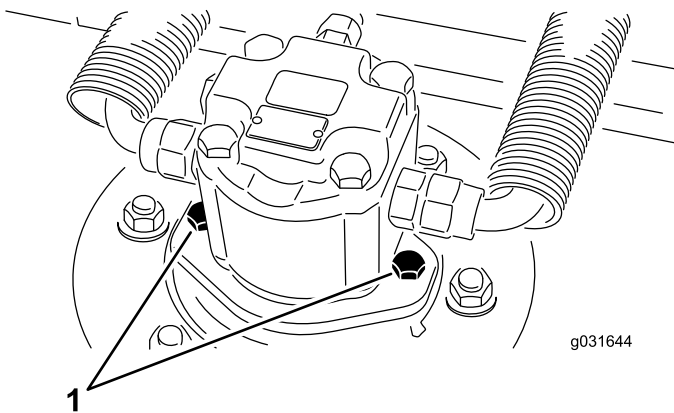

Figure 66
2. Remove the hydraulic-motor-mounting screws and disconnect and remove the hydraulic motor from the deck (Figure 66).
4. Using the hydraulic-motor-mounting screws, install the hydraulic motor to the deck (Figure 66).